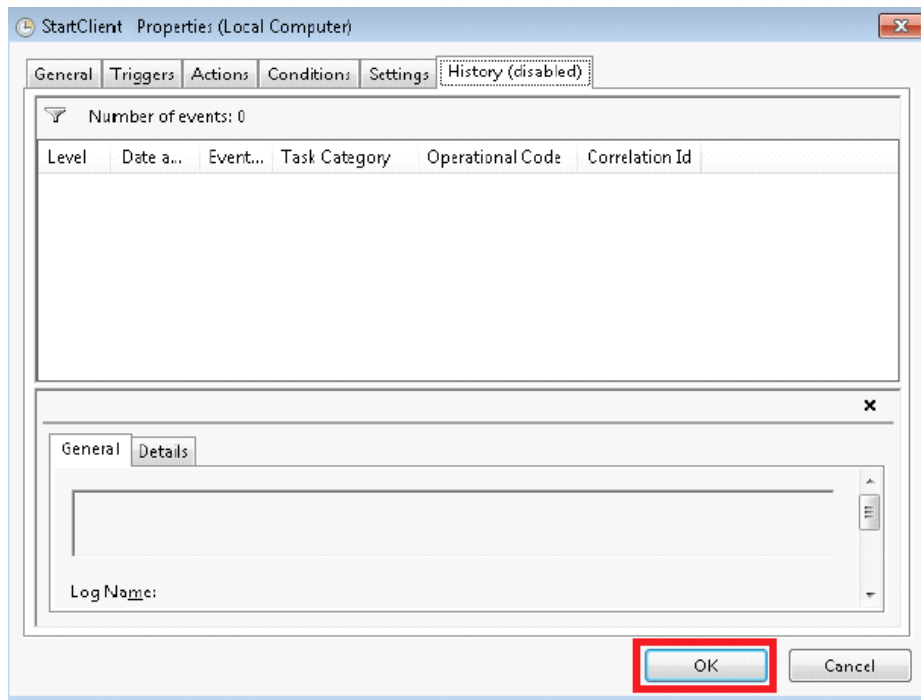

Fig. C.47: History tab
STEP 16 – Please select *History* tab, verify the options according to Fig. C.47, then click *OK* to confirm the changes in *StartClient Properties* and to come back to *Task Scheduler* application.